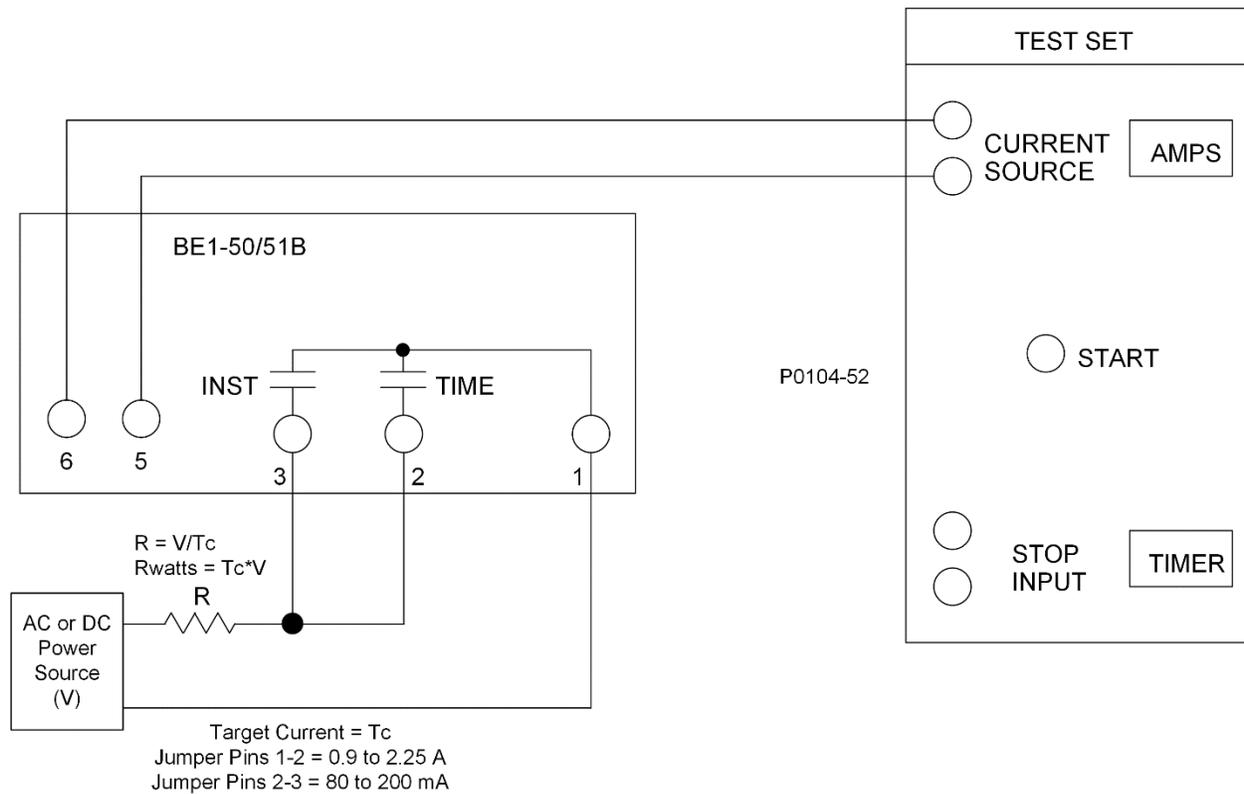

Figure 5-2. Target Operational Test Setup
- a. Connect test setup as shown in Figure 5-2.